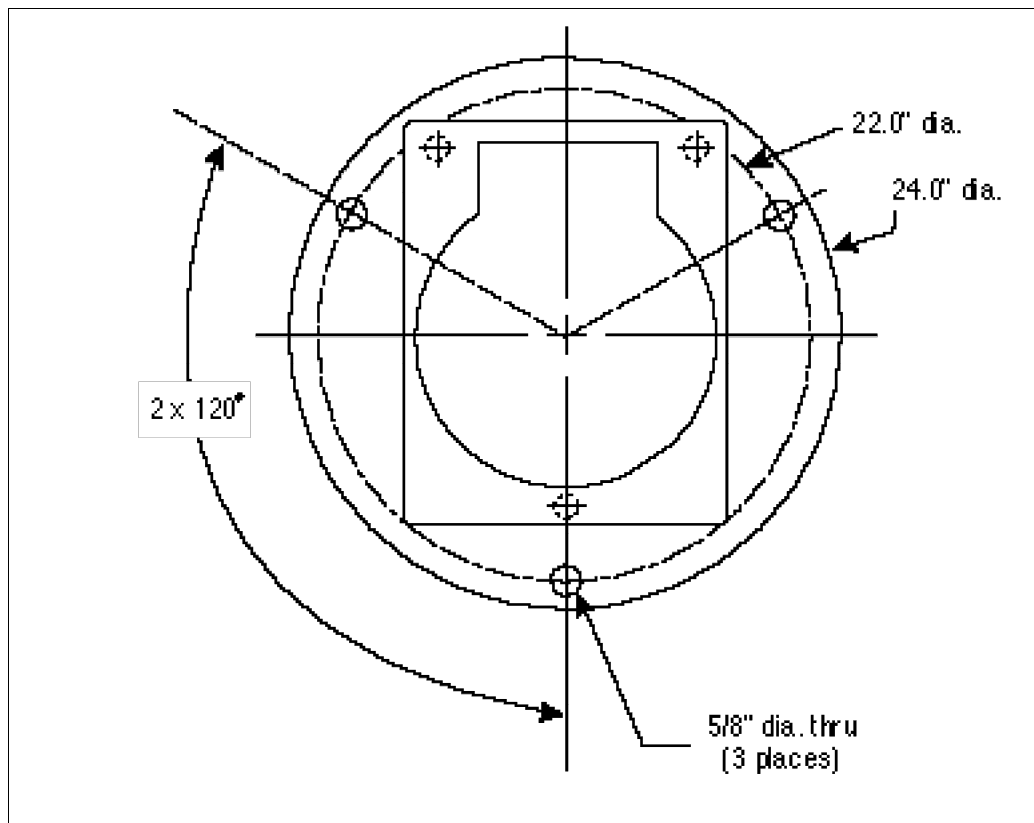

Figure 3-3. Mounting Hole Pattern (Plate/Spool-to-Floor)
2. Drill three (3) 5/8 inch (16 mm) diameter through holes, as shown in Figure 3-3, for plate-to-floor anchoring.
2. Prepare the opposite flange of the mounting spool by drilling three (3) 5/8-inch (16 mm) diameter through holes, as shown in Figure 3-3, for spool-to-floor anchoring.